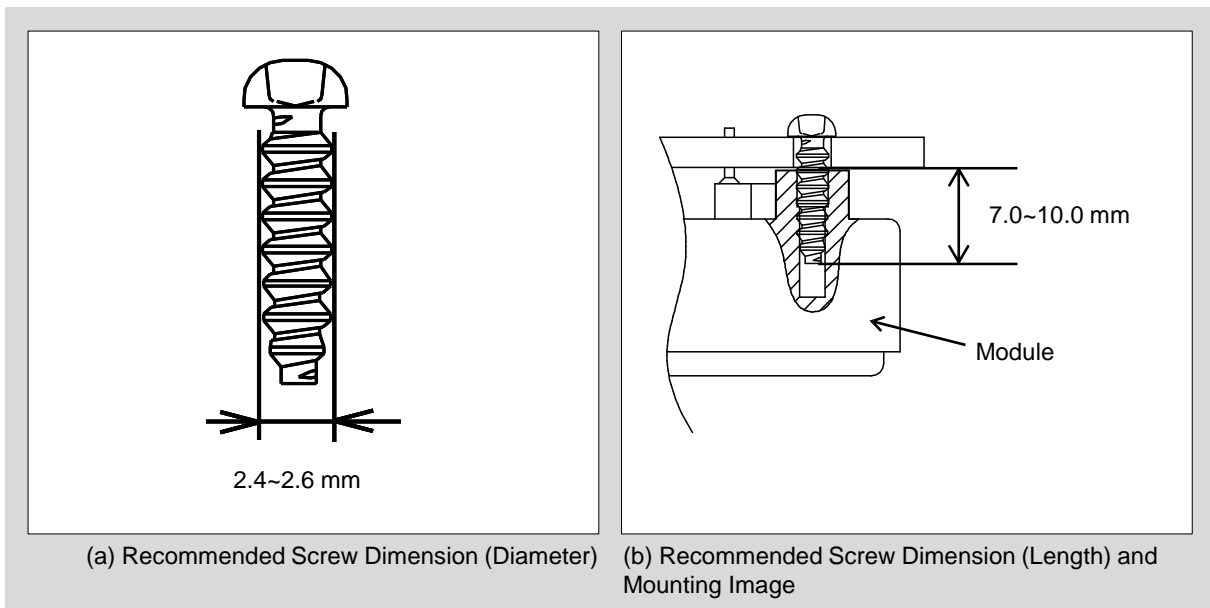

Fig. 5 Dimensions of Recommended Screw and Mounting Image
4. The screws used to fix the PCB should have a diameter of 2.4 to 2.6 mm and a length of 7.0 to 10.0 mm from the bottom surface of the PCB, as shown in Fig. 5.